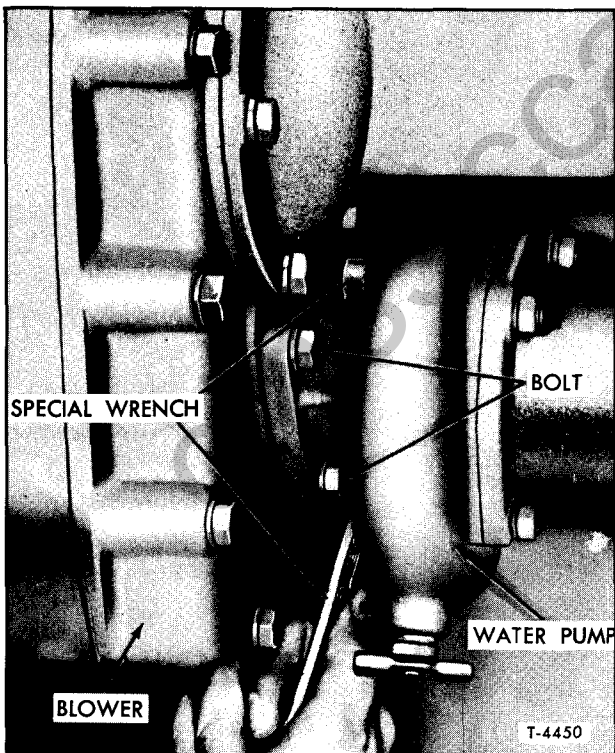

Figure 32—Loosening Inner Water Pump-To-Blower Attaching Bolt with Special Tool (J-4242)
4. Remove the three bolt and seal assemblies that attach the pump to the blower assembly, then use special tool (J-4242) to remove the inner cap screw (refer to fig. 32).